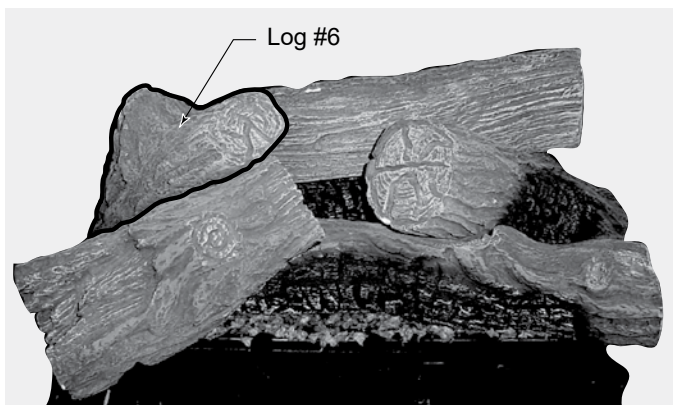

Figure 6.9 - Log #6 Placement
7. Place log #6 at an angle over log #5 toward the back by matching the rectangular notch on the bottom of this log with the rectangular protrusion on log #5. Set the notch located on the bottom of this log toward the back over the metal bracket located to the left side of the burner. Figure 6.9.